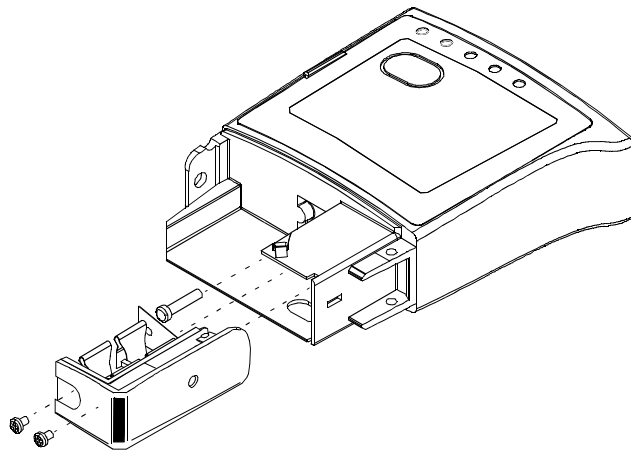

Figure 6-24 Slide the Battery Contacts into the Case Assembly
Step 1. Slide the Battery Contacts into the bottom of the Case Assembly until the retaining pins snap into place. See Figure 6-24.